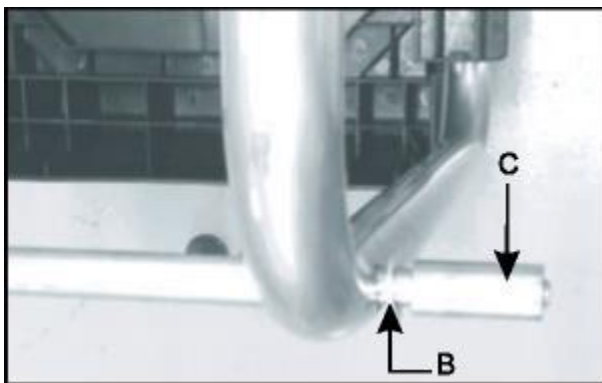

Fig. 1B
1. Place the supplied washer (B) and sleeve (C) on the wheel axle. (Fig. 1B)